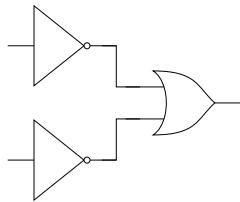

Fig. 3.18
34. The following combination of logic gates in Fig. 3.18 represents the operation